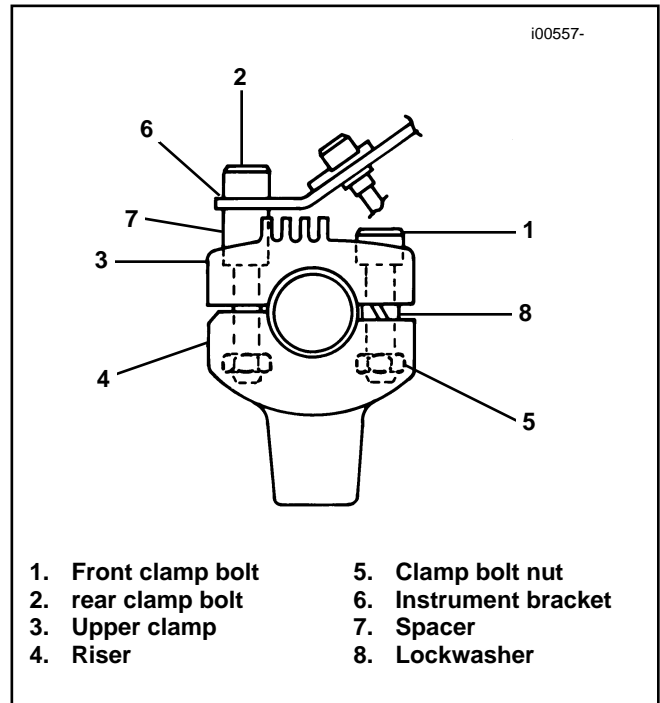

Figure 4. Instrument Bracket Mounting
When removing the speedometer instrument bracket, keep in mind that bracket (6) and spacer (7) are mounted at the front and lockwasher (8) is mounted at the rear of the handlebar. These positions are reversed when installing the dual instrument bracket as shown in Figure 4.
13. See Figure 4. Remove the front and rear handlebar clamp bolts (1 and 2). Remove speedometer instrument bracket (6), spacers (7), and upper clamp (3).
14. Remove the two riser stud nuts at the underside of the upper fork bracket and move the handlebar clear of risers (4). Lift up the risers (4), with studs, and interchange the position of the two risers (left riser to the right and right riser to the left). Loosely thread on the riser stud nuts.
15. Mount the handlebar on risers (4) and position the upper handlebar clamp in alignment with holes in the riser (wide spaced holes at the rear of handlebar).
16. Place lockwasher (8) between upper clamp (3), if originally equipped, and each hole in riser (4) at the front side of the handlebar. Insert shorter clamp bolt (1) through upper clamp (3), lockwasher (8) and riser (4). Thread on clamp bolt nuts (5). Tighten bolts (1) to a torque of 12-15 ft-lbs.
17. Place the dual instrument bracket (6) in position over the rear holes in upper clamp (3). Place a spacer (7) under the bracket and over each rear hole in handlebar riser (4). Insert longer bolt (2) through bracket (6), spacer (7), upper clamp (3) and riser (4). Thread on clamp bolt nut (5) and tighten finger tight.